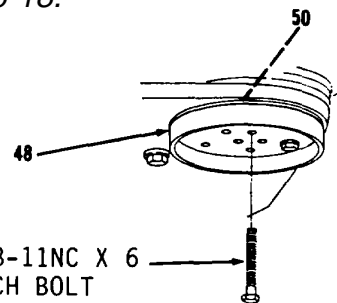
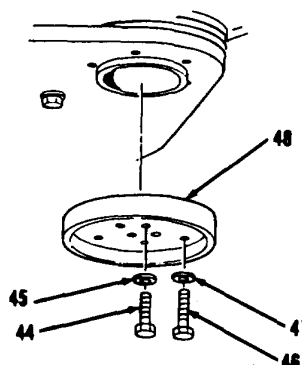

Figure 16-19.
Figure 16-20.
9. Install two 5/8-11NC x 6 bolts, through plate (48) and into pin (50, Figure 16-19).
10. Install pin (50) completely.
12. Remove six bolts (46), lockwashers (47) and plate (48, Figure 16-20).
13. Install four lockwashers (45), bolts (44) and plate (48). Tighten four bolts (44) to 100 ft-lb torque.